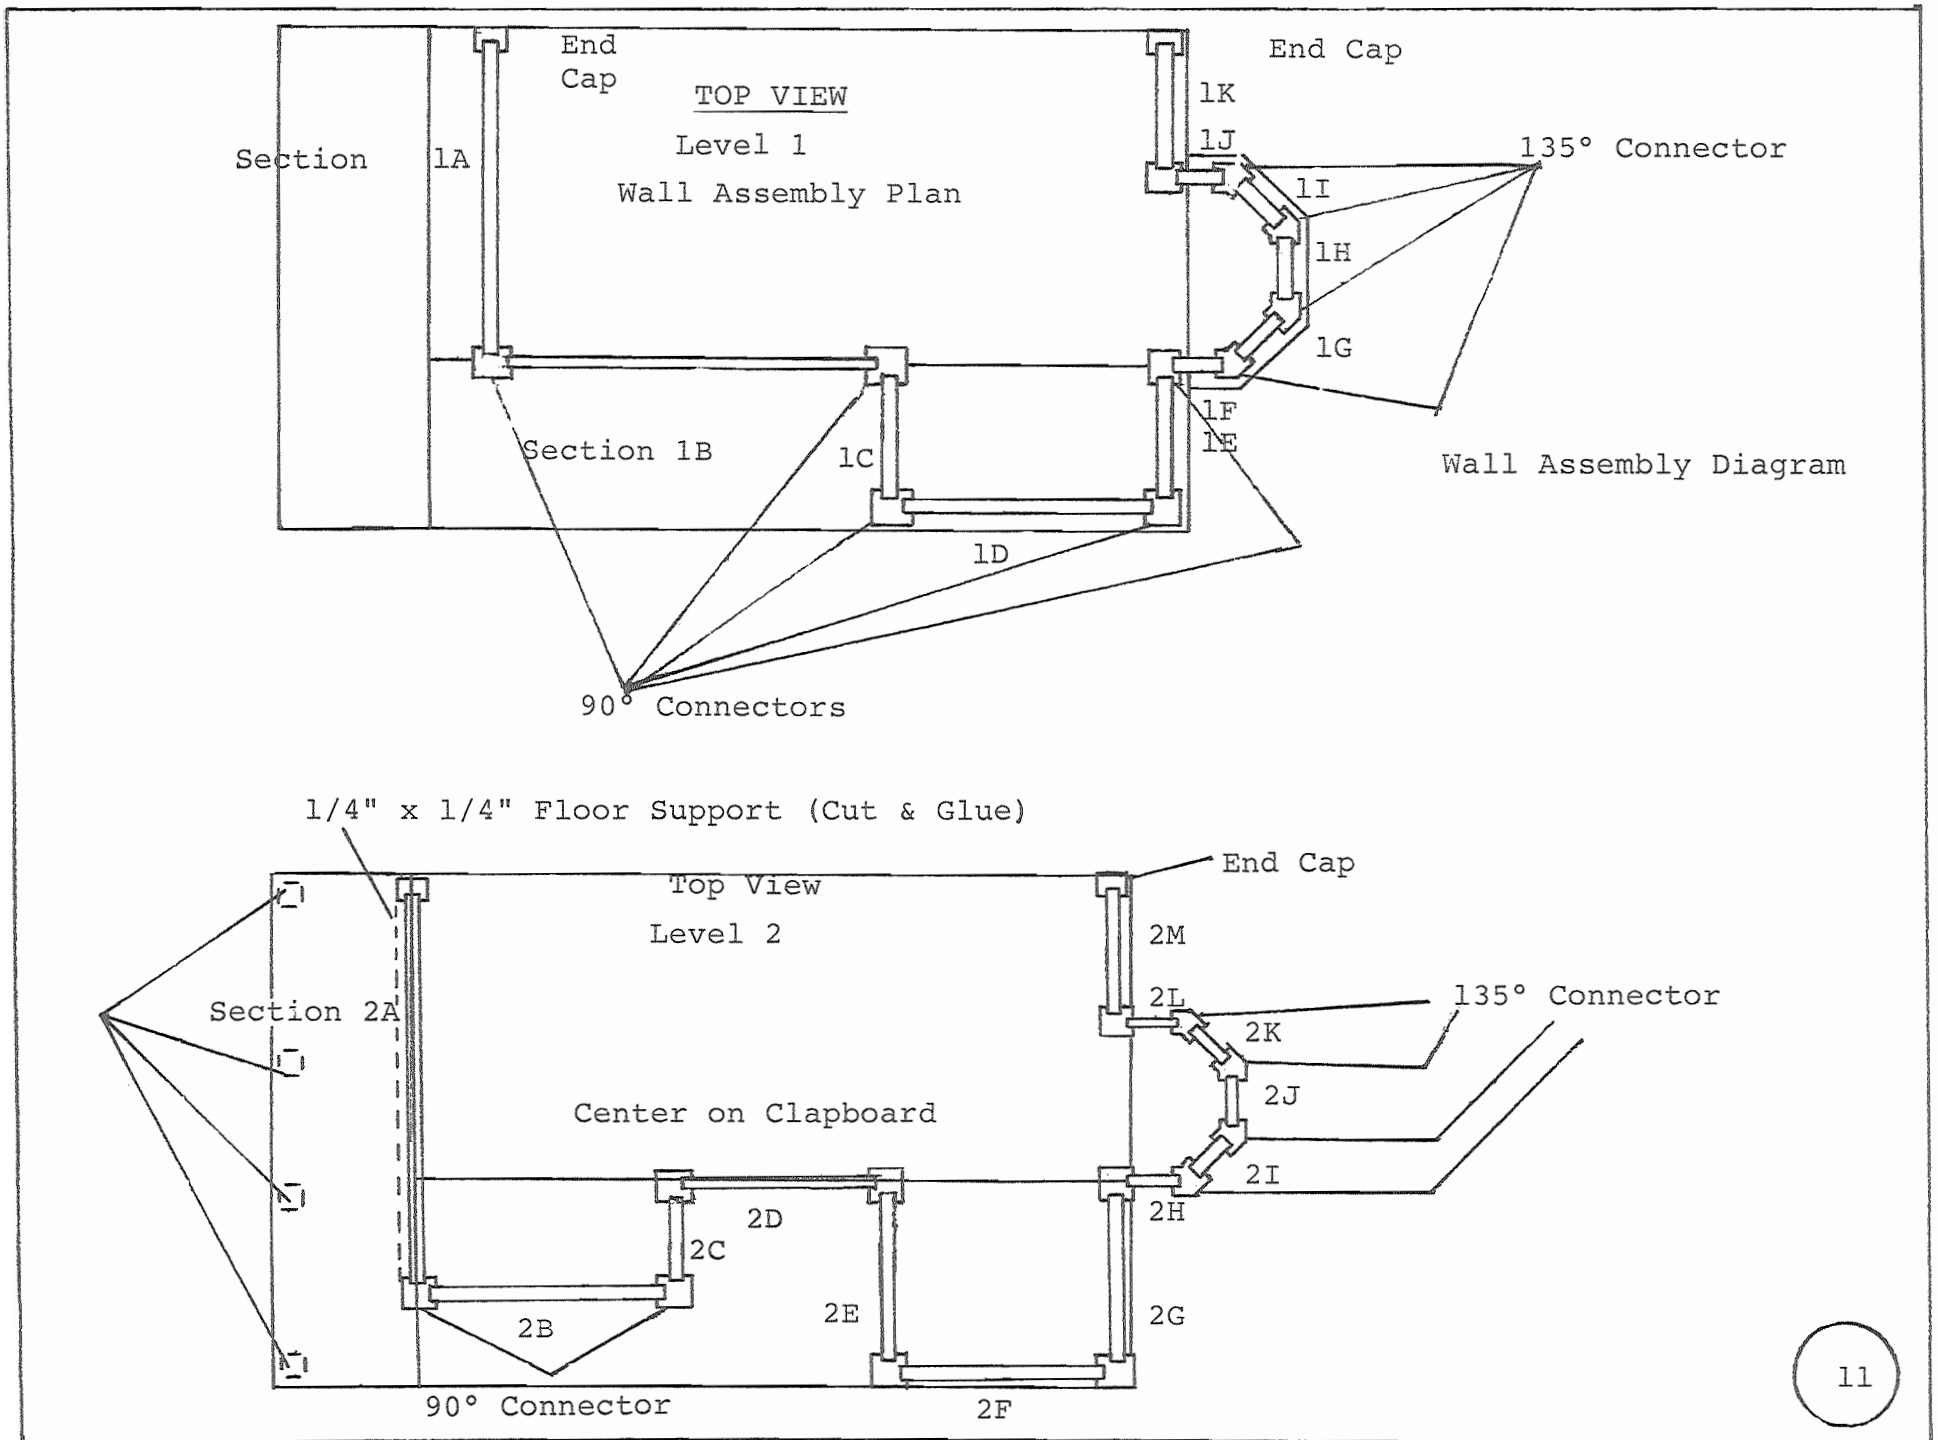

FIGURE 4
Figure 4 on the next page illustrates where you are to use one-way, 90° or 135° connectors for levels one and two.
Begin with Level 1. Interlock and position the wall sections on the base. Use the diagram for Level 1 in Figure 4 and Figure 5 for proper positioning. DO NOT GLUE. Keep walls parallel and square. Equalize overhangs where applicable. Use masking tape to hold the walls together.
12. The second clapboard level can now be installed by repeating steps 10 and 11 above. Refer again to Figures 4 and 6.